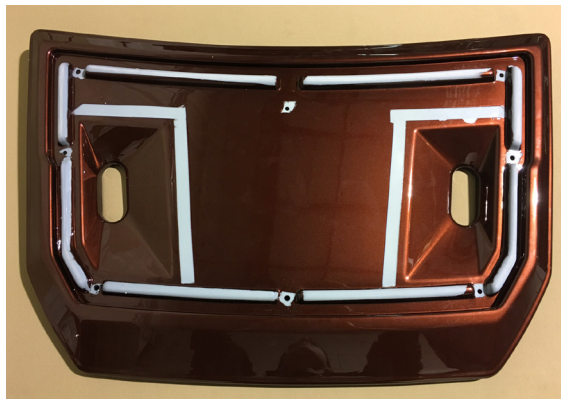

Figure 3
4. Remove painter's tape from areas masked off for paint prep. (Figure 3)